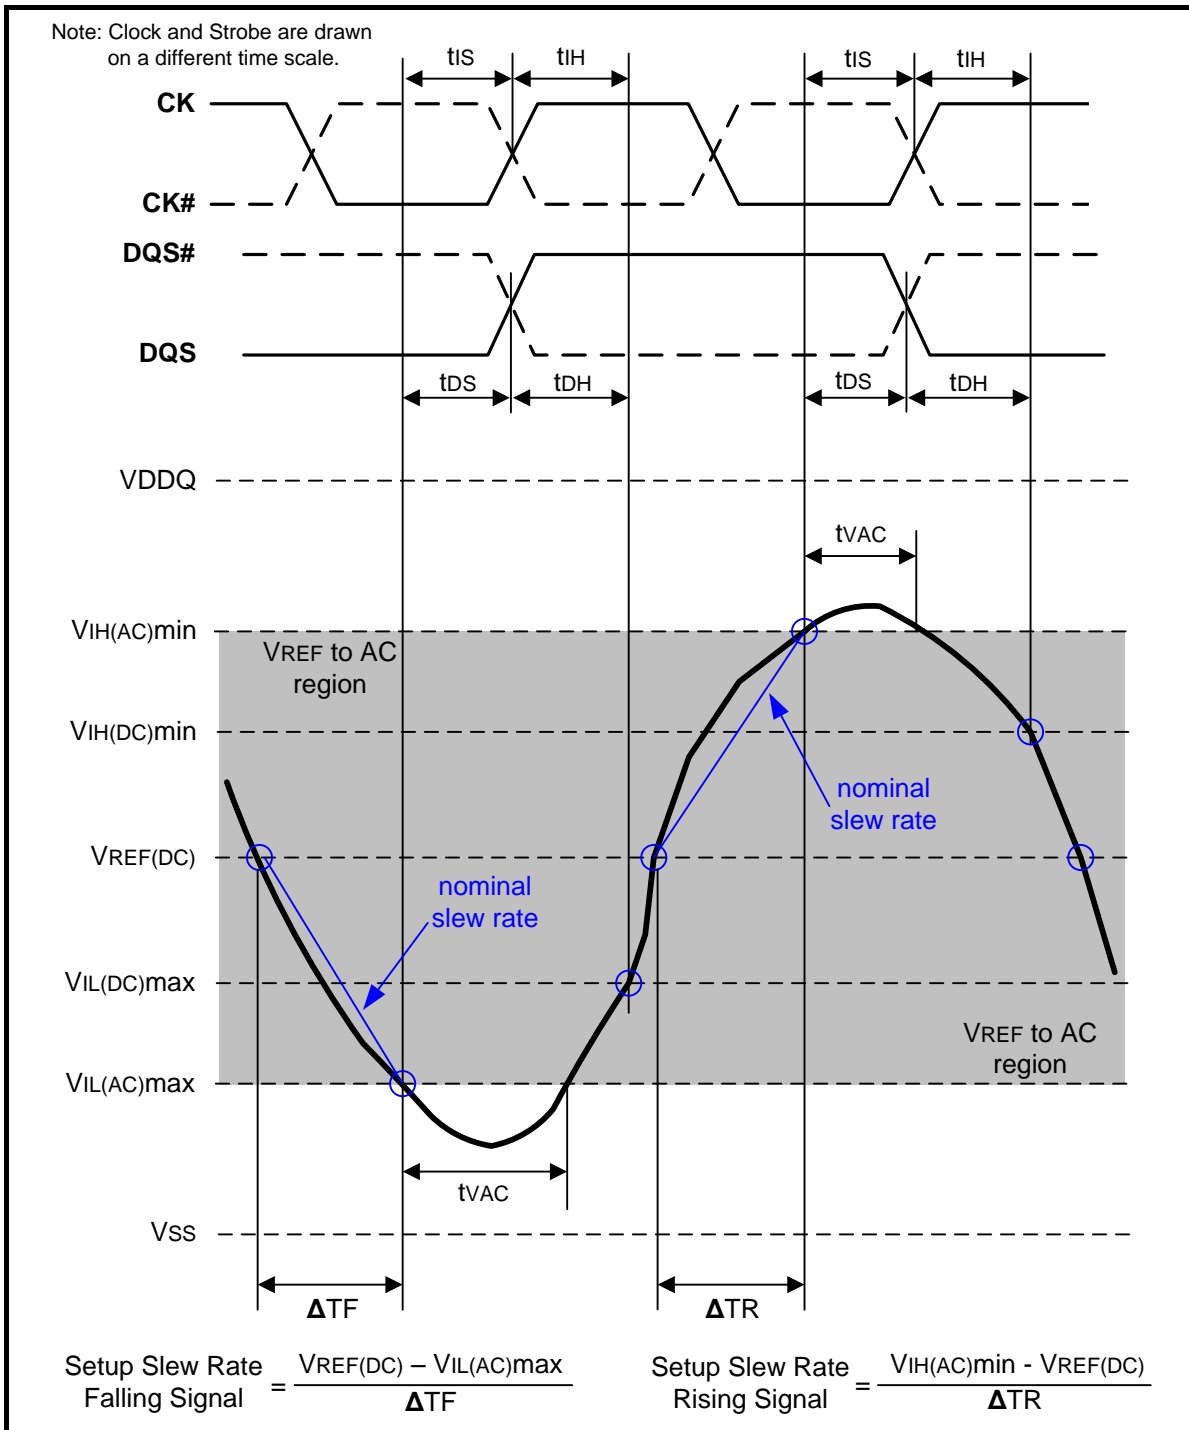
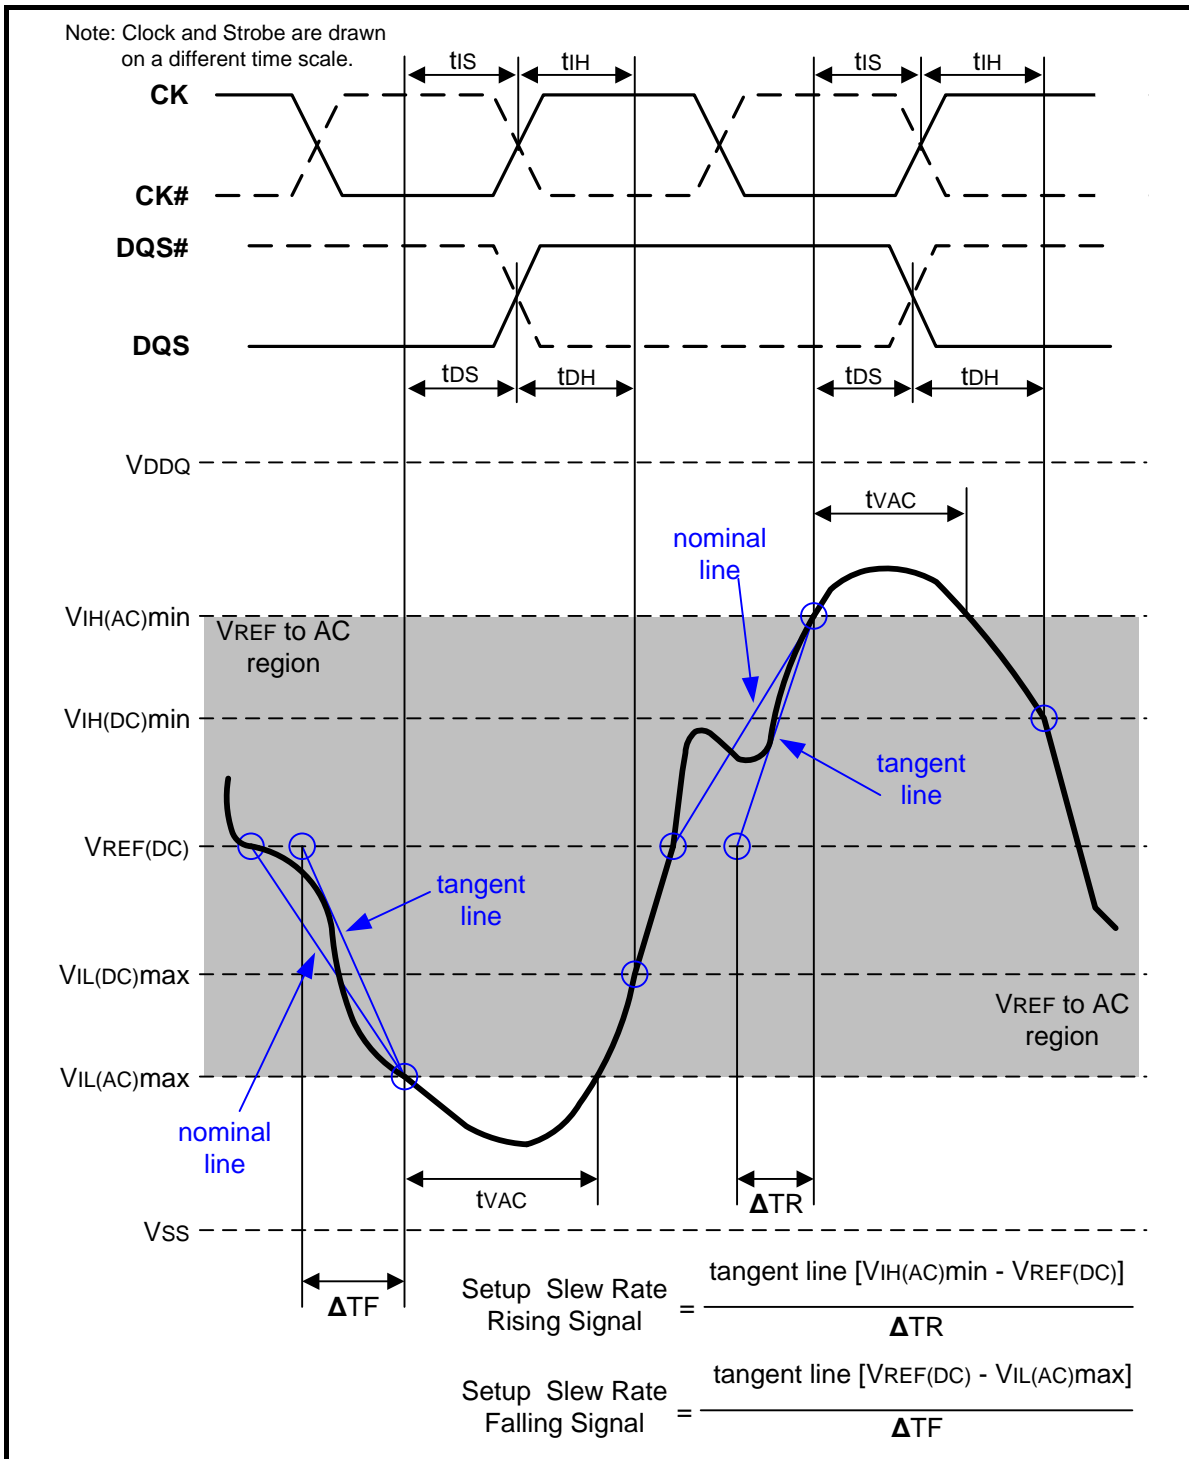

Figure 107 – Illustration of nominal slew rate and tvAC for setup time tds (for DQ with respect to strobe) and tis (for ADD/CMD with respect to clock)
Figure 109 – Illustration of tangent line for setup time  $t_{DS}$  (for DQ with respect to strobe) and  $t_{IS}$  (for ADD/CMD with respect to clock)
Setup ( $t_{IS}$ ) nominal slew rate for a rising signal is defined as the slew rate between the last crossing of  $V_{REF(DC)}$  and the first crossing of  $V_{IH(AC)min}$ . Setup ( $t_{IS}$ ) nominal slew rate for a falling signal is defined as the slew rate between the last crossing of  $V_{REF(DC)}$  and the first crossing of  $V_{IL(AC)max}$ . If the actual signal is always earlier than the nominal slew rate line between shaded 'VREF(DC) to AC region', use nominal slew rate for derating value (see Figure 107). If the actual signal is later than the nominal slew rate line anywhere between shaded 'VREF(DC) to AC region', the slew rate of a tangent line to the actual signal from the AC level to DC level is used for derating value (see Figure 109).
Setup (tDS) nominal slew rate for a rising signal is defined as the slew rate between the last crossing of VREF(DC) and the first crossing of VIH(AC)min. Setup (tDS) nominal slew rate for a falling signal is defined as the slew rate between the last crossing of VREF(DC) and the first crossing of VIL(AC)max (see Figure 107). If the actual signal is always earlier than the nominal slew rate line between shaded 'VREF(DC) to AC region', use nominal slew rate for derating value. If the actual signal is later than the nominal slew rate line anywhere between shaded 'VREF(DC) to AC region', the slew rate of a tangent line to the actual signal from the AC level to DC level is used for derating value (see Figure 109).